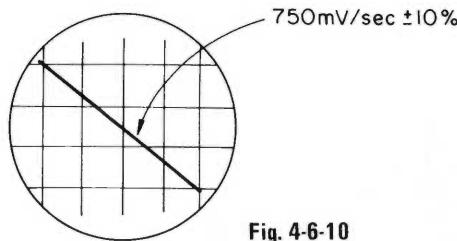

Fig. 4-6-10
- 3) Under the condition, make sure that a diagonal line on the scope is within 750mV/sec ±10% as shown in Fig. 4-6-10.
- 4) Check inclination of the waveform appearing on the oscilloscope at this time is 750 mV/sec ± 10% as shown in Fig. 4-6-10.